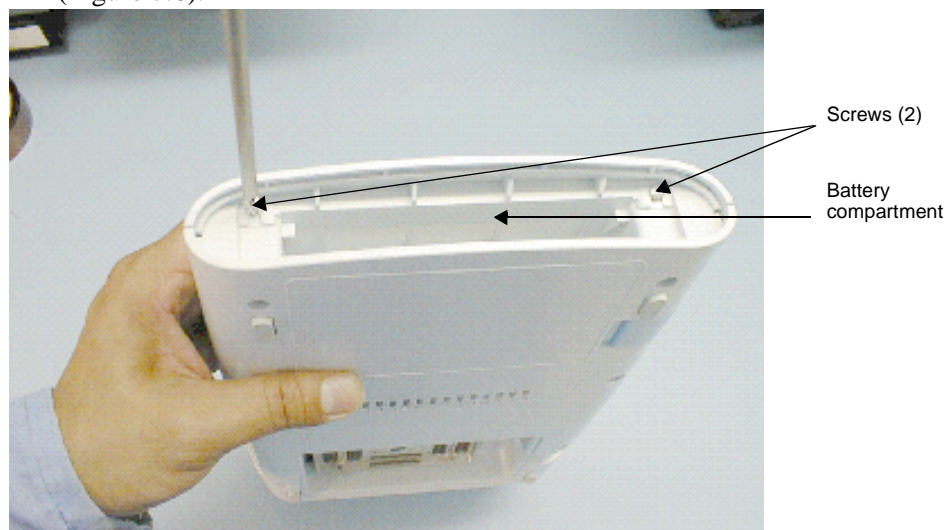

Figure 7.6 Removing the Control Panel
7. Set the Control Panel into place and replace the two screws inside the battery compartment (Figure 7.6). Torque screws to 7.1 in./lb (0.8 newton meter).
2. Use a #1 Phillips screwdriver to remove the two screws in the battery compartment, which releases the Control Panel from the top housing (Figure 7.6).